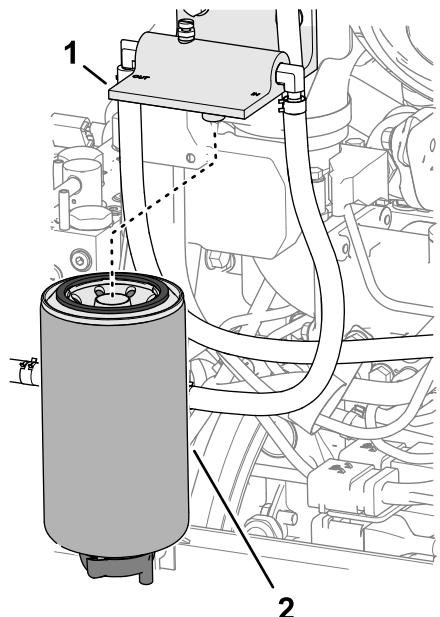

Figure 118
2. Clean the fuel-water separator filter and filter head (Figure 118).